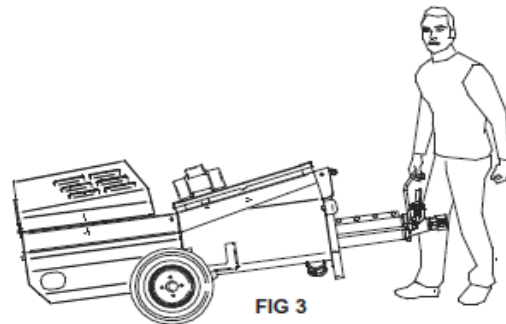
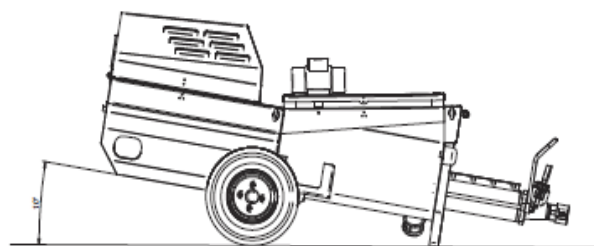

FIG 3
FIG. 5
8. TRANSPORTABILITY (fig.3). LIFTING (fig.4). TOWABILITY (optional fig.5)
! - CAUTION! Never use points other than as specified in figure 3 to lift the machine.
The machine must always be placed on a flat surface: a slight downward inclination of the cam pump will aid outlet of the material (fig 5).
To stop the machine in the event of an emergency, press the red emergency button (ref. 9). To isolate the machine, turn the main switch to 0 and remove the electric power plug from the socket (ref. 1, fig. 5) all moving parts are shut down.